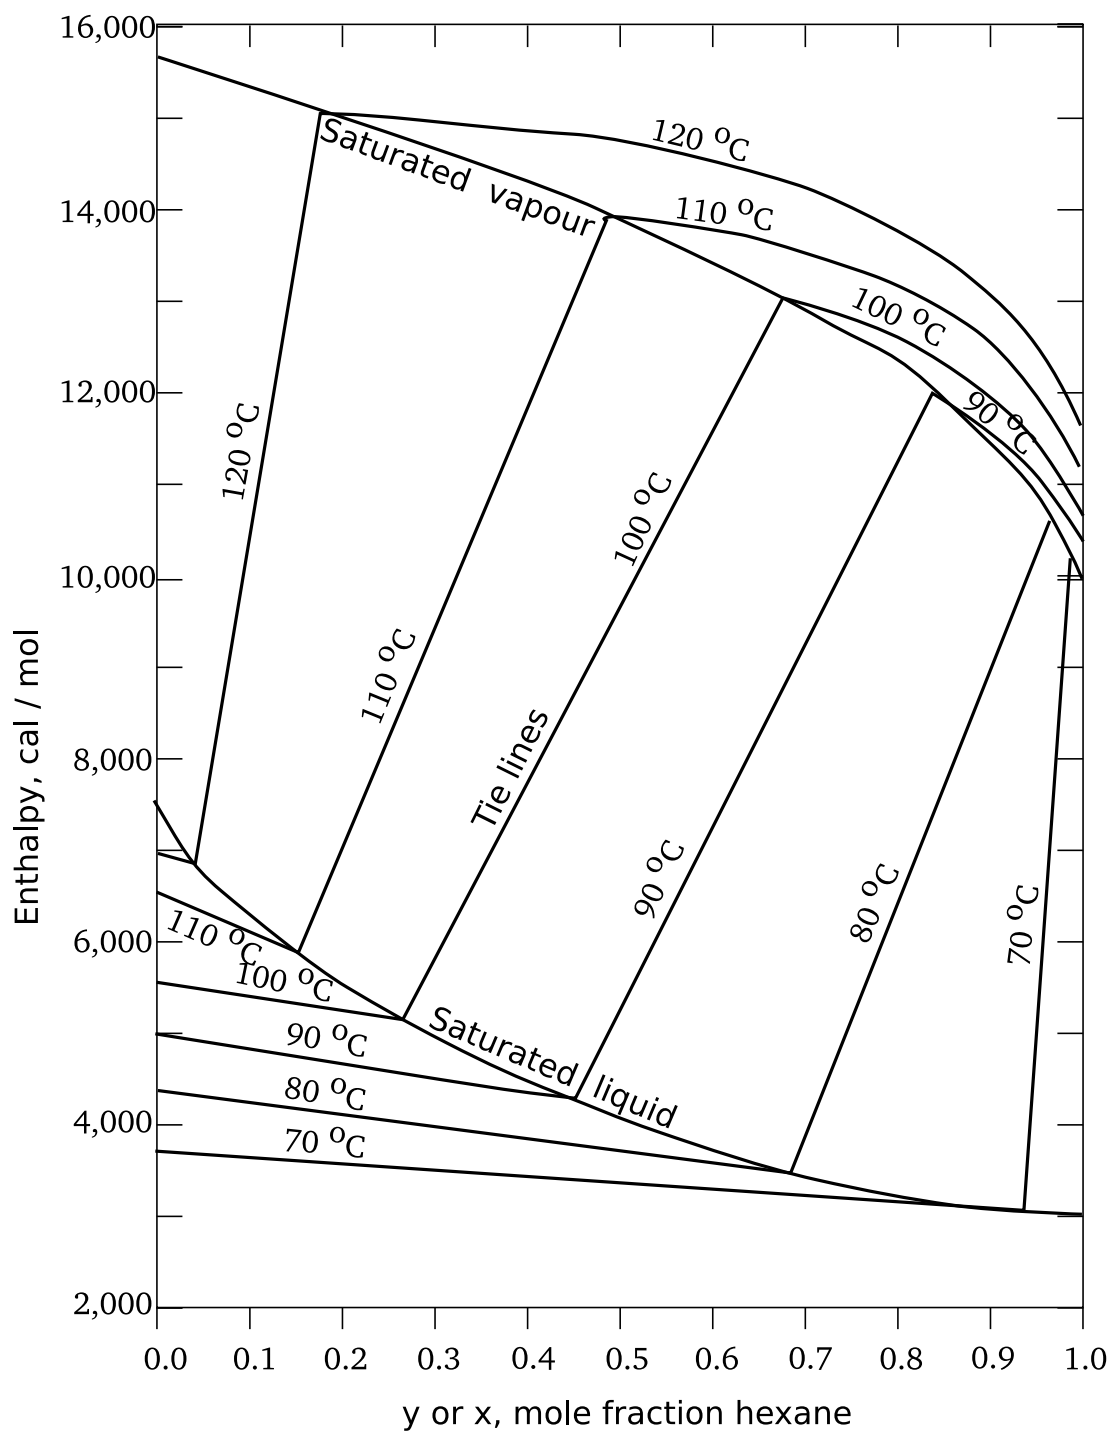

Figure 26: Enthalpy concentration diagram for hexane-octane mixtures at 760 mmHg. For use in Q. c, 39, and 40.
- c) A mixture of n -hexane and n -octane is to be separated by distillation to produce a bottom product containing no more than 3 mol% n -hexane and a top product of at least 95% purity of n -hexane. Using the enthalpy-composition chart (see Fig. 26), determine:
Using the enthalpy-composition diagram for hexane-octane in Fig. 26, construct a temperature-composition (T - x - y) diagram and a x - y diagram at the same pressure of 760 mmHg. The boiling temperatures of the pure components are 68.5 and 125.8°C.
An equimolar mixture of hexane and octane is throttled from a moderately high pressure into a flash vessel maintained at a pressure of 760 mmHg. Determine the temperature at which the vessel must be maintained for each of the following degrees of vaporisation (V/F): 0.00, 0.25, 0.50, 0.75, 1.00. You will need the enthalpy-composition diagram for hexane-octane in Fig. 26.